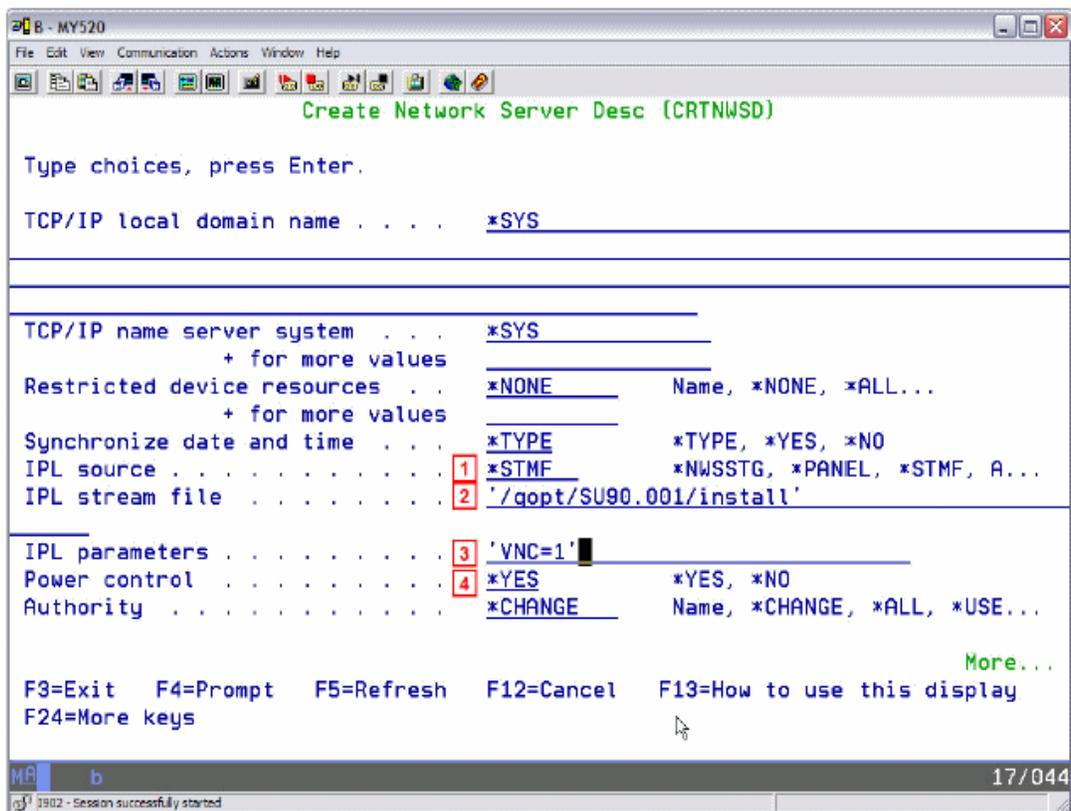

Figure 13-27 Network Server Descriptor
2. After you complete the first page of parameters, press the <PgDn> key twice to display the last page of parameters as seen in Figure 13-27.